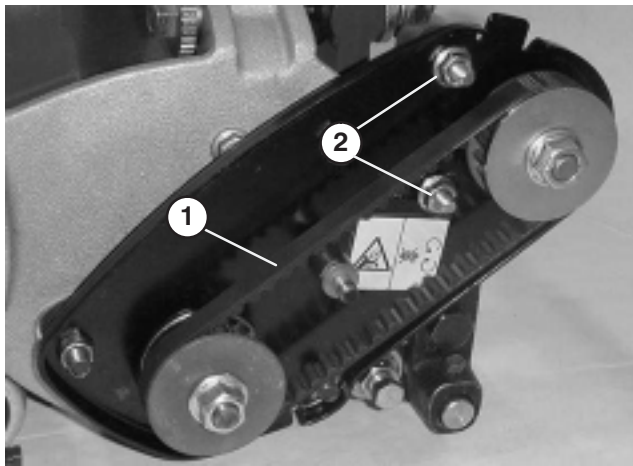

Figure 38
- A. Loosen the bearing housing mounting nuts (Fig. 38).
C. Tighten the bearing housing mounting nuts (Fig. 38). **Do not over-tension belt.**
- C. Tighten the bearing housing mounting nuts (Fig. 38). **Do not over-tension belt.**